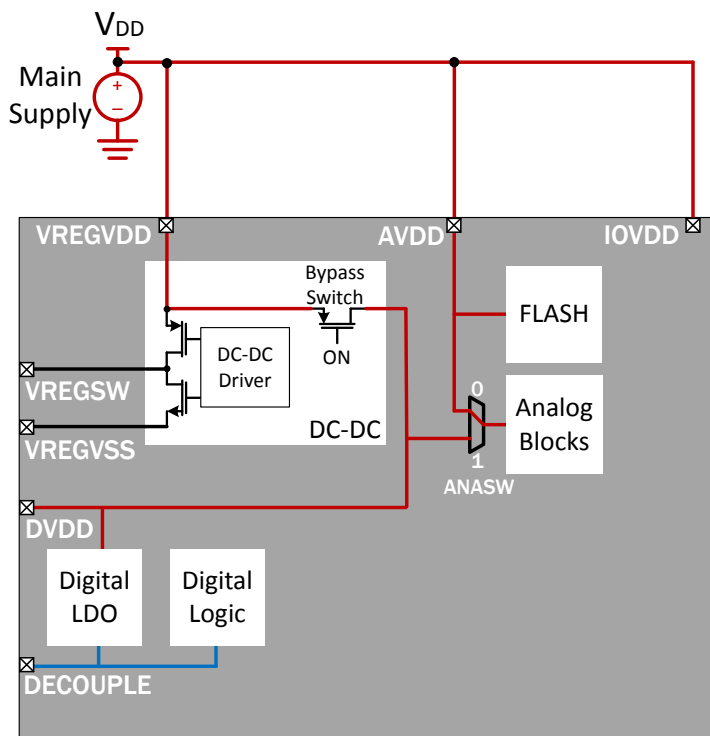

Figure 2.5. EFM32 Series 2 and EFR32 Wireless Gecko Startup Configuration
**Note:** Figure 2.5 EFM32 Series 2 and EFR32 Wireless Gecko Startup Configuration on page 13 is only provided to show the device startup default supply configuration, and is not a usable application configuration.